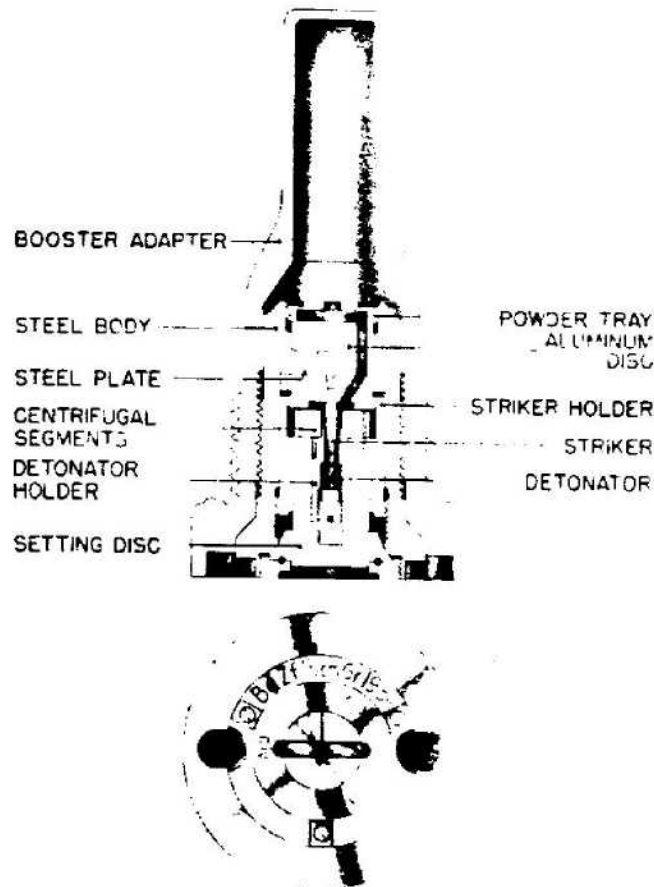

Figure 611—Bd. Z. (15-cm Gr. 19 Be.)
**EMPLOYMENT:** Base fuze for 15-cm Granat 19 anticoncrete shell. (See fig. 611.)